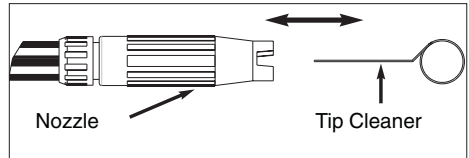

Figure 5 - Insert tip cleaner in nozzle hole and move back and forth until debris is dislodged.
- Using included tip cleaner, or an un-folded paper clip, insert wire into the nozzle hole and move back and forth until debris is dislodged (See Figure 5).